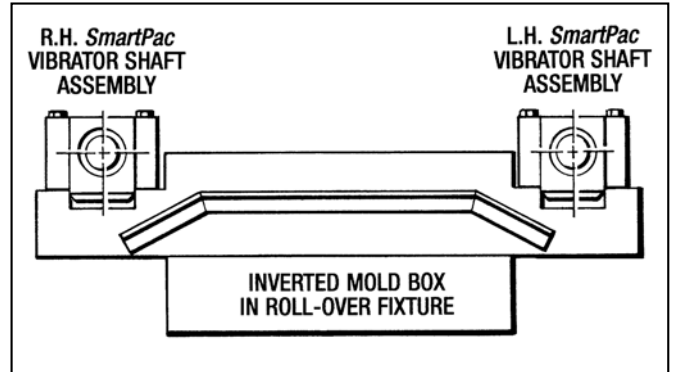

Figure 2 - Inverted Mold Box
2. Set the new *SmartPac* vibrator shafts into position on the mold bars. You may have to use the pry bar in each gap to nudge the bearing housings down until they seat themselves completely into the mold bar notches. See *Figure 2*.
**NOTE** - Don't forget that when the Mold Box is inverted the L.H. Shaft is on the right side and the R.H. Shaft is on the left side as shown in *Figure 2*.